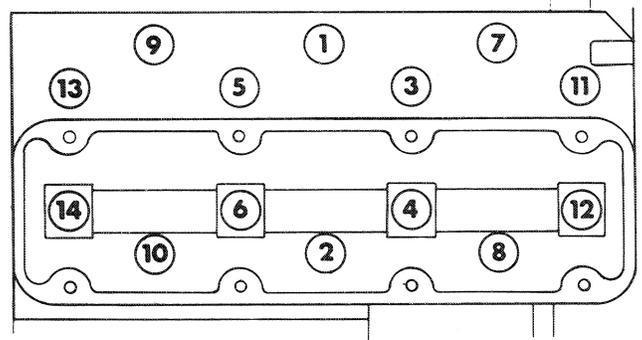

Figure 19
- Be sure washers are installed under the heads of the cylinder head retaining bolts. Tighten the cylinder head bolts in the sequence shown in Figure 19, and progressively in three steps as follows: